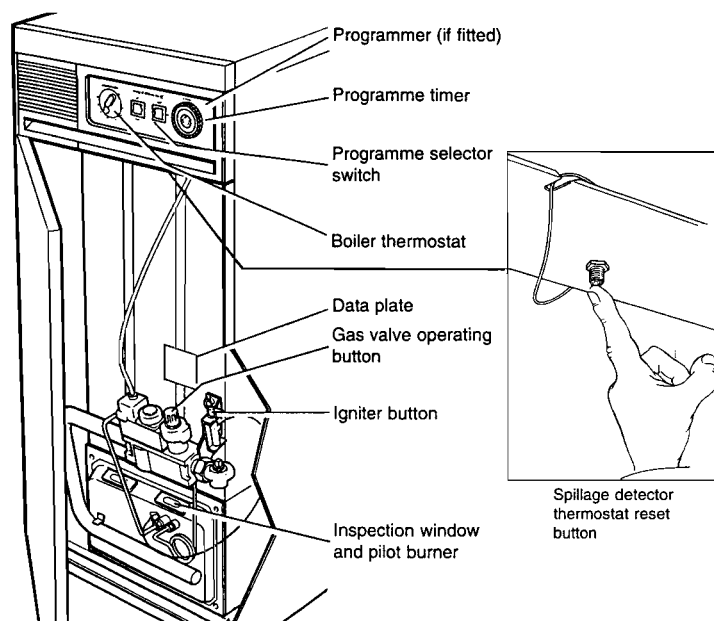

Fig. 2
Open the case door and refer to Fig. 2 for the boiler controls
7. **FAILURE TO OPERATE. C Models only.** If the main burner fails to light turn the boiler thermostat to the 'off' position and check that the spillage detector thermostat reset button (see Fig. 2) is pressed in and then repeat operation 4. If the reset button has to be pressed in again within a short time or the burner fails to light call your service engineer. Turn the room thermostat, if fitted, to the desired room temperature.